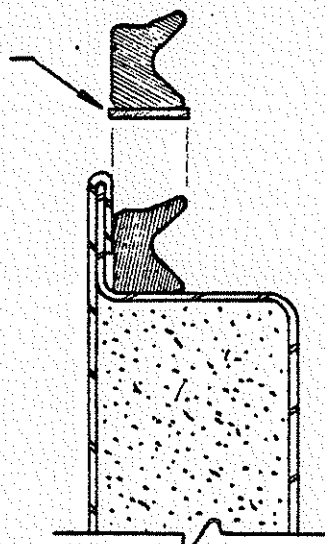

Figure 2
6. On upper door latch side, apply a strip of rubber tape (48-02156-404) as in Fig. 2.